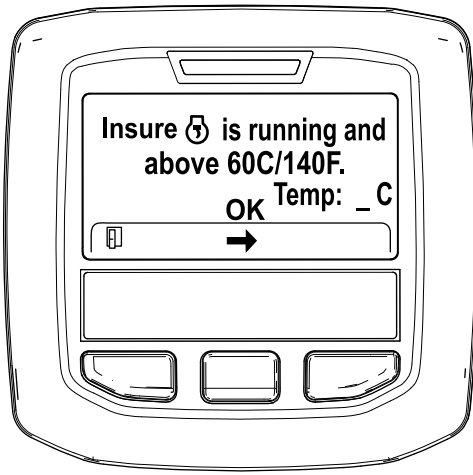

Figure 42
5. If the coolant temperature is below 60°C (140°F) the "Insure  is running and above 60C/140F" message displays. (Figure 42).